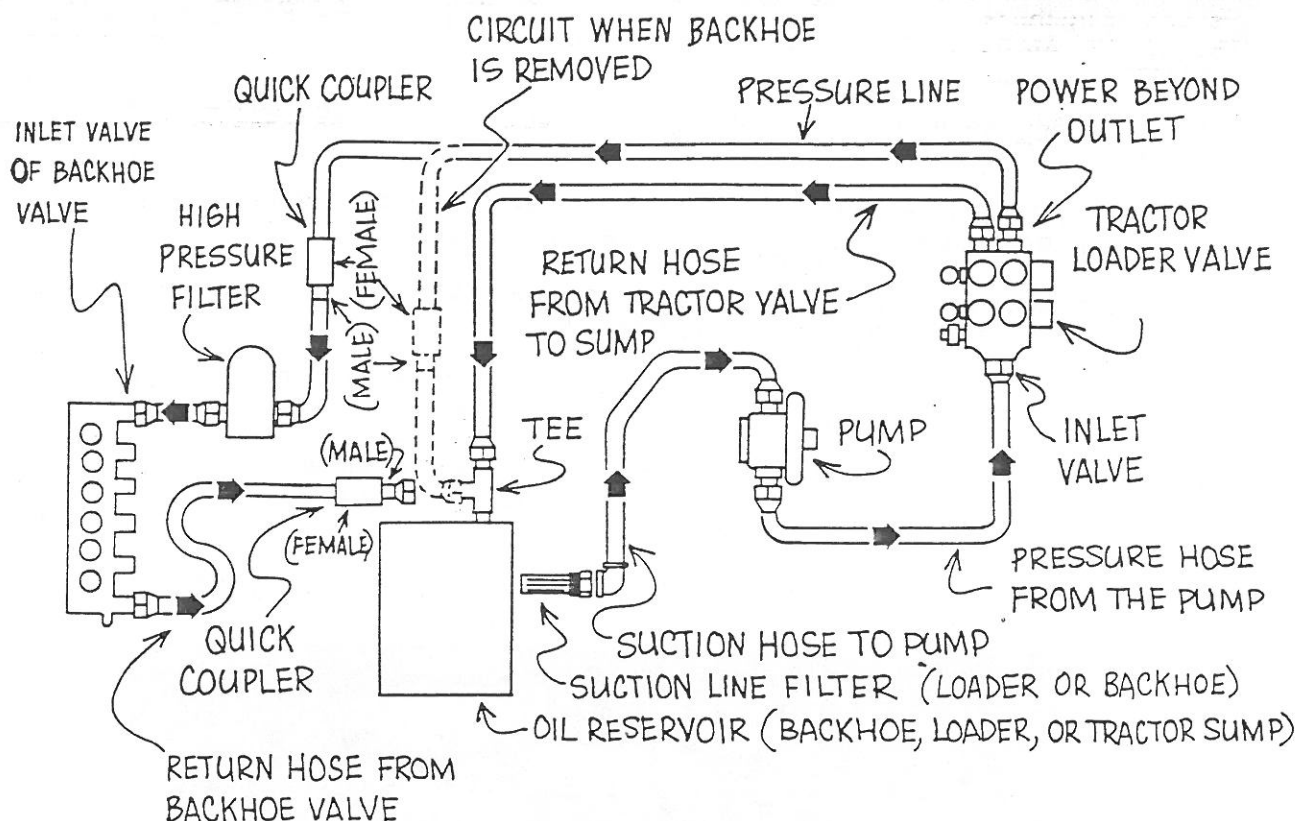
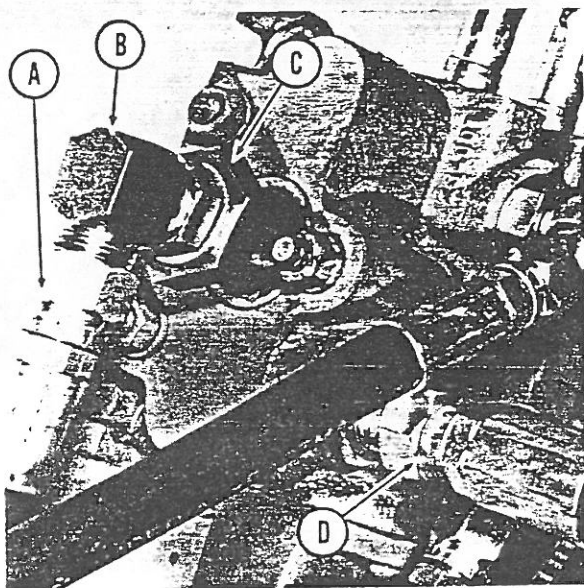
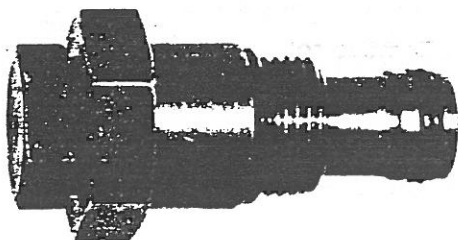
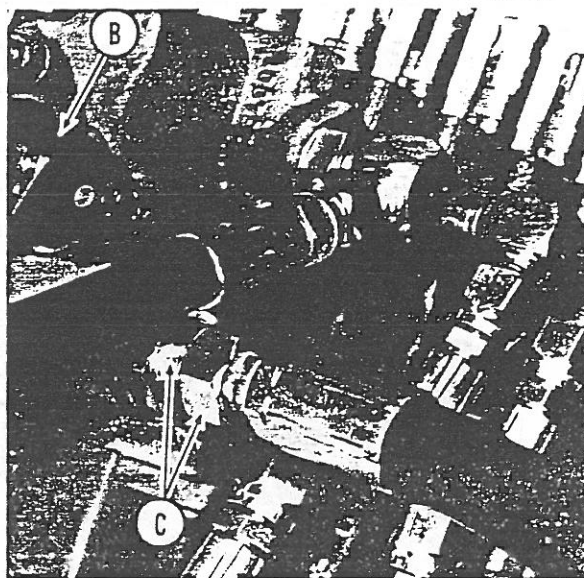

Figure 2 — Power Beyond Hosing
Figure 10
Figure 12
Figure 13
- D. If you wish to run both a loader and a backhoe off of the same hydraulic system, make your connection as illustrated in Figure 2 — Power Beyond Hosing. Also, refer to the section of this manual entitled **Power Beyond Hydraulic Systems** Figure 10. Since there are so many variations for this type of setup, we are showing only a generalized hosing scheme. If you have any questions concerning the specifics for your situation, please contact the factory before attempting operation.
- D. If you wish to run both a loader and a backhoe off the same hydraulic system, make your connection as illustrated in Figure 2 — Power Beyond Hosing.
- A. Remove return hose and elbow, Points A and B in Figure 10, from valve.
- B. Install closed center sleeve in Figure 12 as seen at Point C — Figure 10. Remove O-ring plug from sleeve.
- D. Install a high pressure hose going to the inlet of another valve. This hose is not furnished (Point A — Figure 10).
- E. Remove O-ring plug from front of the outlet section of valve (Point D — Figure 10) and replace with 850B-8X10 adapter (Part #SFT10079). Connect return line that was removed from Point A to this adapter. Connect the other end of the return hose to the tractor oil sump.
F. Refer to Figure 2 for hosing.
- A. Remove return hose and O-ring ell at outlet end of valve, Point B of Figure 13.
- B. Replace with closed center sleeve (Part #785022 — Figure 12) as shown in Point B of Figure 13.
- C. Remove O-ring plug from the front of outlet section of the valve Point C of Figure 13 and replace with a 850B-8X10 adapter (Part #SFT10079). Connect return line to the adapter and return to oil sump of the tractor.